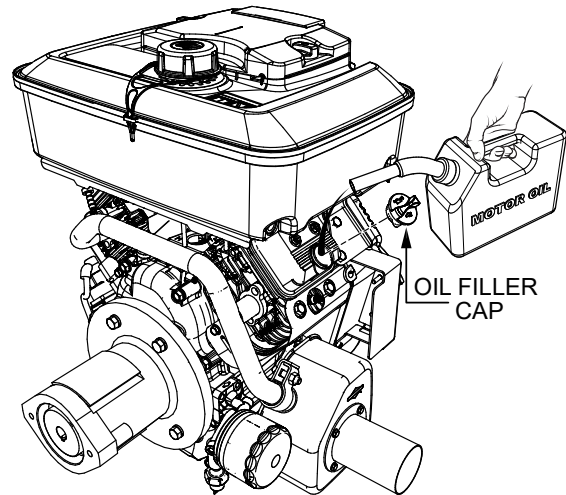

Figure 7. Oil Filler Cap
4. If the oil level is low, remove the oil filler cap (Figure 7) and fill to the edge of the oil filler hole with the recommended oil type listed in Table 4. **DO NOT** overfill. Maximum oil capacity is 48 oz. (1.4 liters).